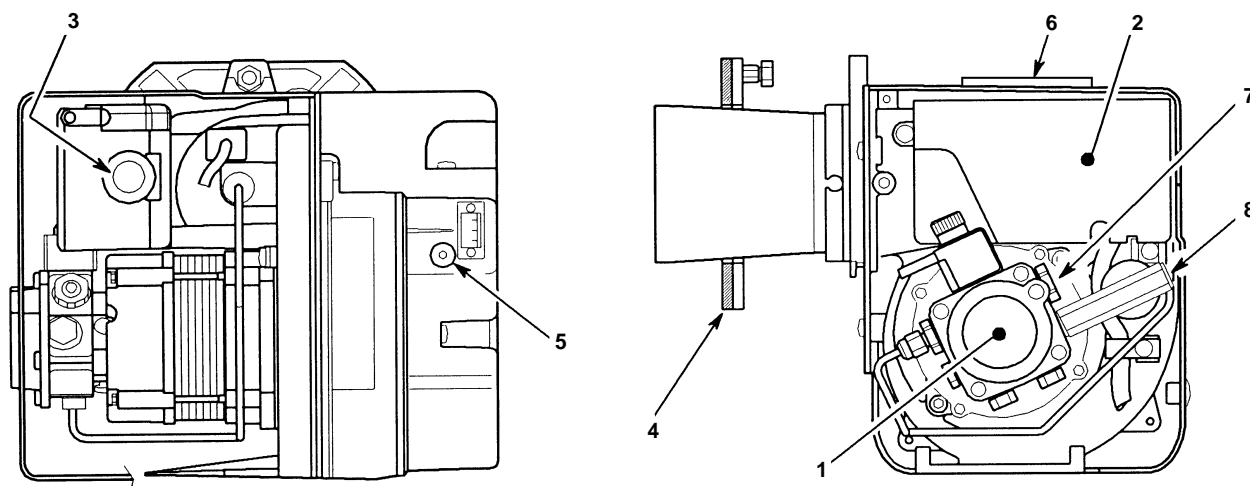

Fig. 31 - RDB burner components
- 4 Connect a combined vent manifold and pressure gauge to the pressure gauge connection port on the oil pump. See Fig. 31. Open the vent screw on your vent manifold to vent the supply while the pump is running.
- 8 With the burner alight, check the fuel pressure. Refer to the Technical Information, sections 2.2 and 2.3. Adjust the pressure if necessary - see Fig. 31.
- 13 Check the smoke number, if satisfactory check the CO₂. Adjust the burner air regulator, see Fig. 31. Turning the screw anti-clockwise closes the damper and increases CO₂ level, turning the screw clockwise opens the damper and reduces CO₂ level. Re-check the smoke number if the air damper has been moved.